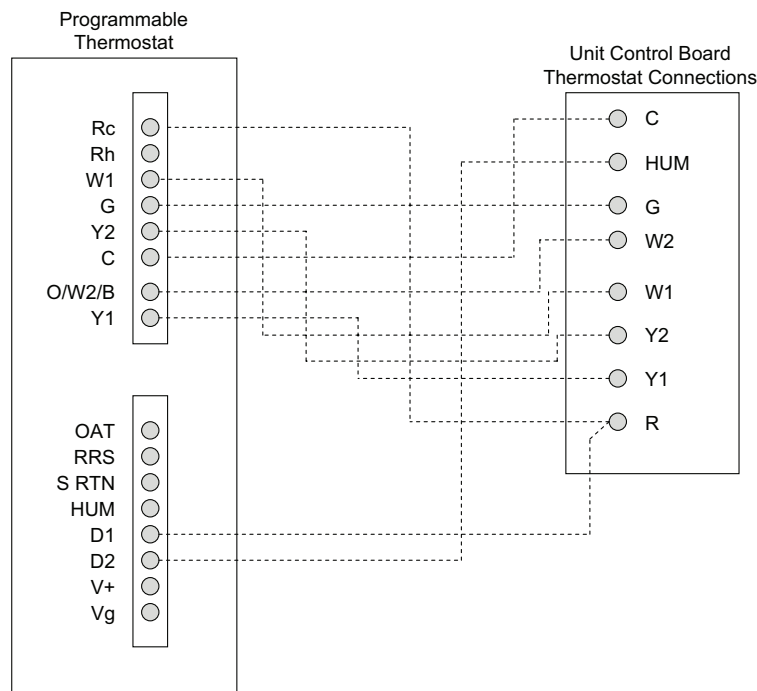

Fig. 38 — Typical 48FE08-14 Unit with Humidi-MiZer Adaptive Dehumidification System and Edge® Pro Thermidistat Device**
3. The Thermidistat has dry contacts at terminals D1 and D2 for dehumidification operation (see Fig. 38). Connect D1 to the R terminal on the UCB. Connect D2 to the HUM terminal on the UCB. Refer to the installation instructions included with the Carrier Edge® Pro Thermidistat device for more information.